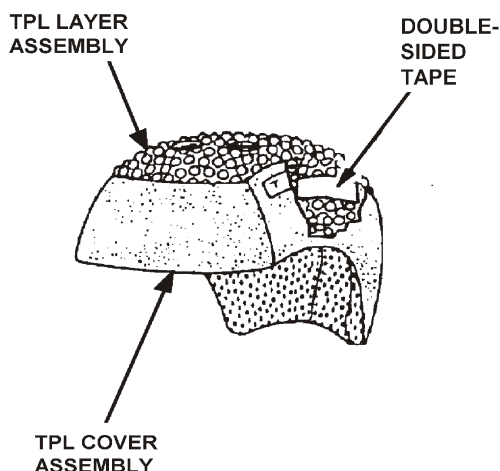

Figure 2-6. Cover Assembly Secured to Layer Assembly
2. Ensure the TPL cover assembly is secured to the TPL preformed layer assembly with two approximately 1 x 2-inch (25 x 50-mm) pieces of double-sided tape (one on each side) as shown in Figure 2-6.